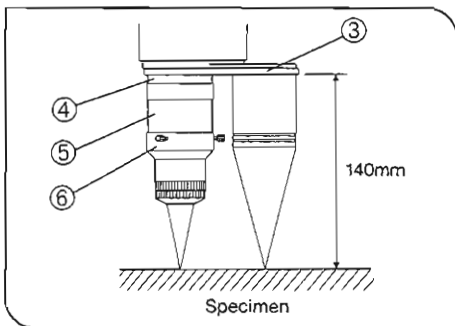

Fig. 19
- ⊙ This is convenient when using a parfocal objective (PF) with the SZX-2RE revolving nosepiece ③ and the SZX-AL20X. (Fig. 19)
- Attach the provided parfocal correction ring ④ to the DFPLAPO1XPF ⑤ by screwing in, then attach the SZX-AL20X ⑥. (Fig. 19)